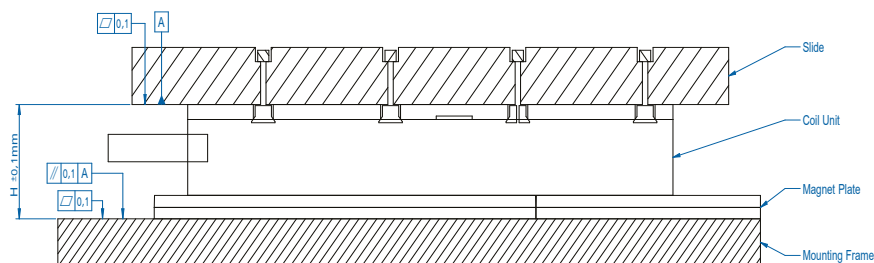
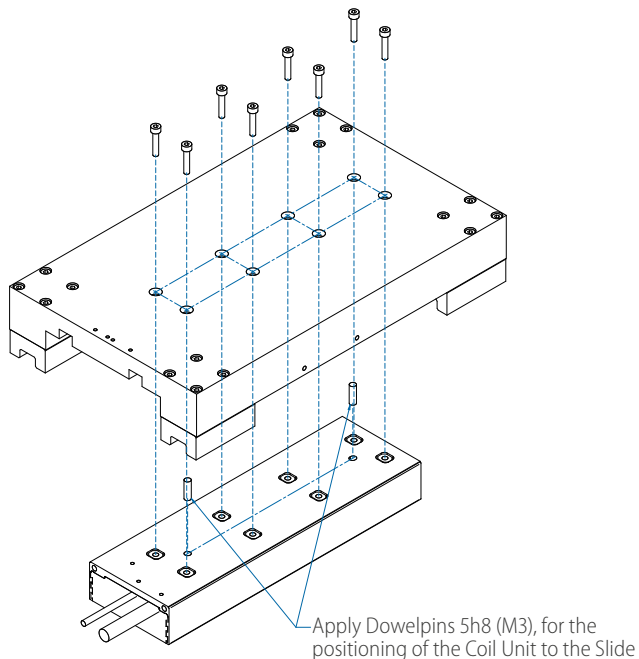

Figure 4.1: Flatness and parallelism requirements for slide and mounting frame.
Figure 4.3: Mount the coil unit to the slide.
For the slide and the mounting frame, we recommend flatness and parallelism according to figure 4.1. When these values cannot be met, it is necessary to increase the mounting height (H). The nominal mounting height can be seen in table 3.2.
Before mounting the coil unit to the slide, please verify if the mounting height from table 3.2 and the flatness and parallelism from figure 4.1 are met. The bolts and dowel pins that should be used are listed in table 4.1. When this is done, the coil unit can be bolted to the slide using all of the bolting holes, as can be seen in figure 4.3. Apply cross-wise tightening of the bolts in order to obtain an equal distribution of the fixing force.